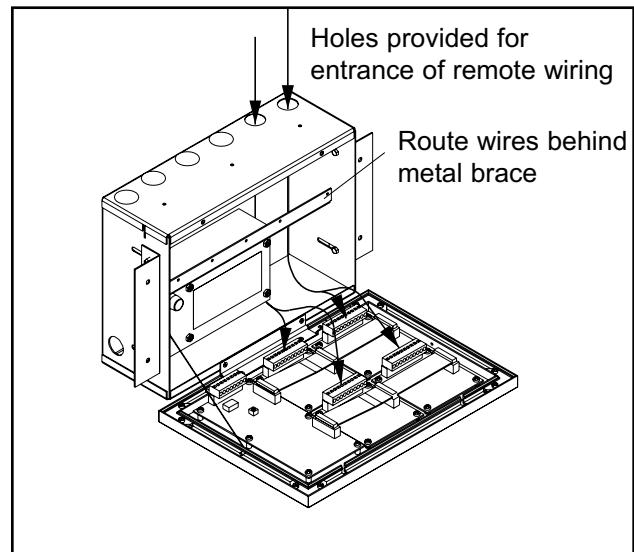

Figure 18: Remote Sensor Wire Routing
2. Route each pair of sensor wires as shown in Figure 18 to appropriate digital display module. Each digital display module is labeled with the gas type. Verify the appropriate remote sensor wires are connected to correct digital display module.